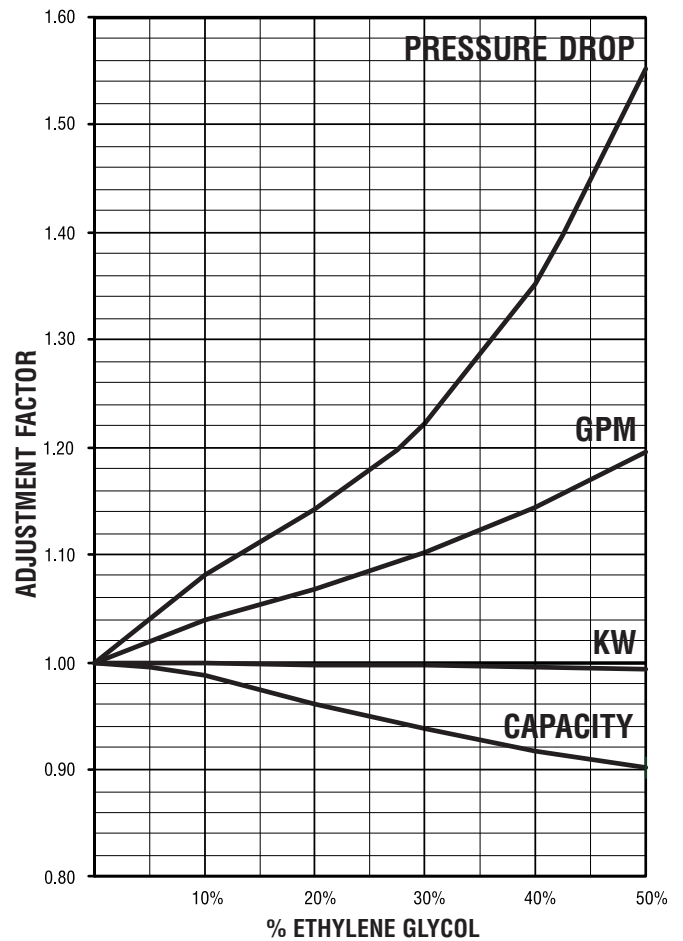

Figure 3. Ethylene Glycol Adjustment Factors
Ethylene glycol adjustment factors (Figure 3) should be used to adjust performance, depending on the percent of glycol used in the evaporator circuit. The factors in Table 3 are based on a 10°F change in fluid temperature through the evaporators.
3. To convert performance for water to performance with ethylene glycol, read adjustment factors from Figure 3 at 30% glycol.